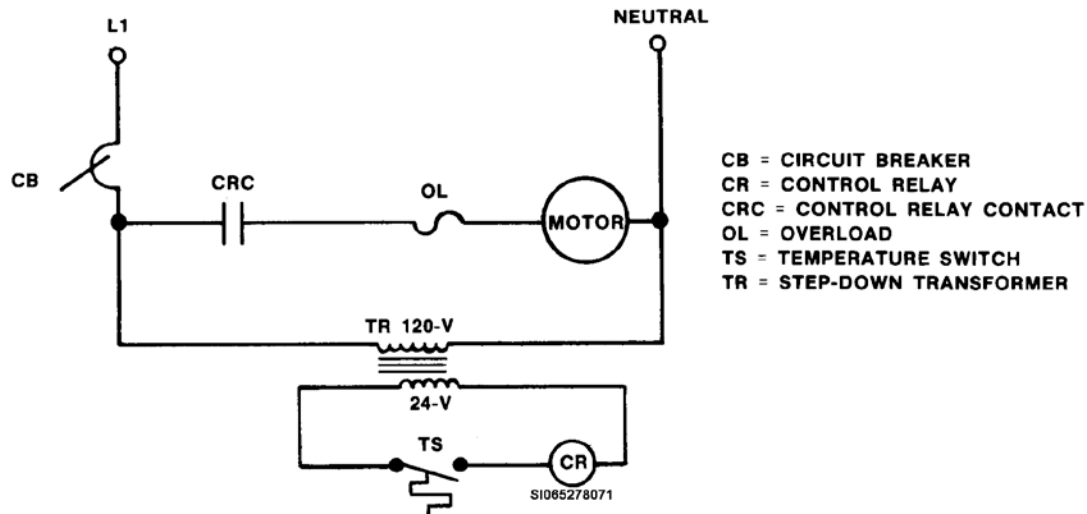

Figure 1-30. Basic motor control diagram.
Let's trace a wiring diagram (fig. 1-30) and see how easy it is to interpret an electrical circuit. Looking at figure 1-30, you can see we want to control a motor. When the temperature switch (TS) closes due to a rise in temperature, the coil, compressor relay (CR), is energized. This closes the NO contact, compressor relay contact (CRC), to complete the motor circuit. Did you notice that the contact is in a different location than the coil? This is something you'll have to get used to. The separation of the different parts of the same component is common with schematics. Notice how the contact and the coil are ONE component but on the schematic they are in TWO different places. This is one of the most important concepts to grasp when it comes to reading schematics.